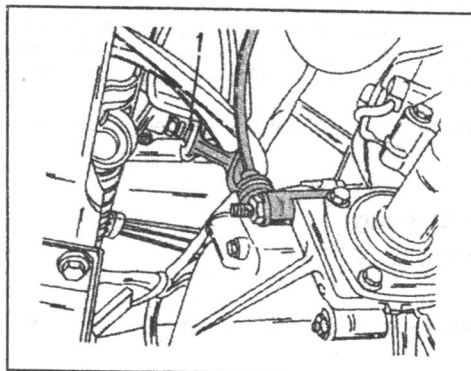

Fig. 6.11. — The union nut for the pressure pipe (1) can be found at the location shown.
- Unscrew the union nut (1) from the rotary valve of the steering box (Fig. 6.11) and withdraw the pipe.